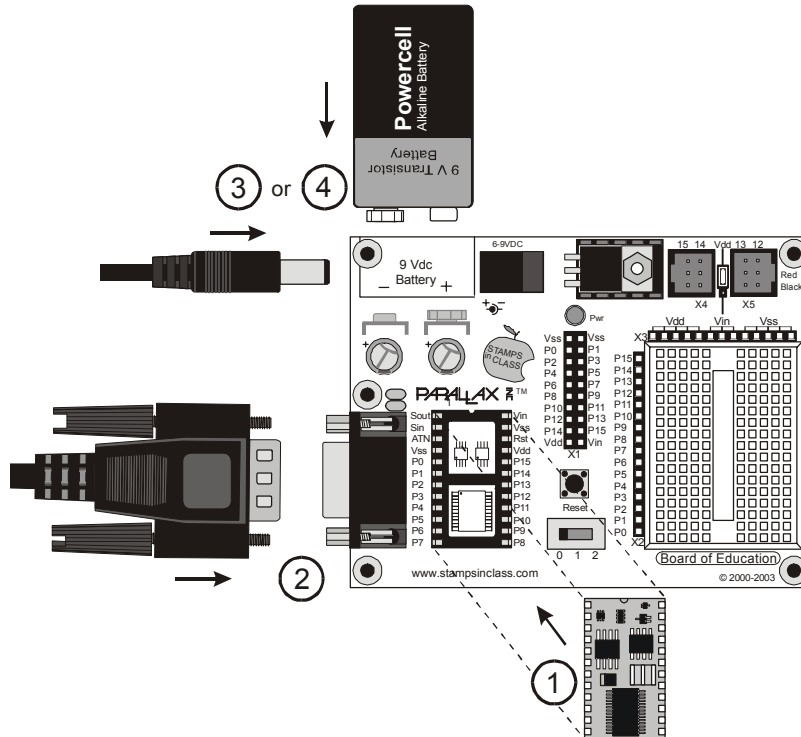

Figure 1-30
Only the Board of Education Rev C has a 3-position switch. To turn off power on a Board of Education Rev B, simply disconnect the power source by either unplugging the DC supply or the battery. These are shown in Figure 1-30, step 3 or 4.
- ✓ If your BASIC Stamp is not already plugged into your Board of Education, insert it into the socket shown in Figure 1-30, step-1. Make sure the pins are lined up properly with the holes in the socket, then press down firmly.